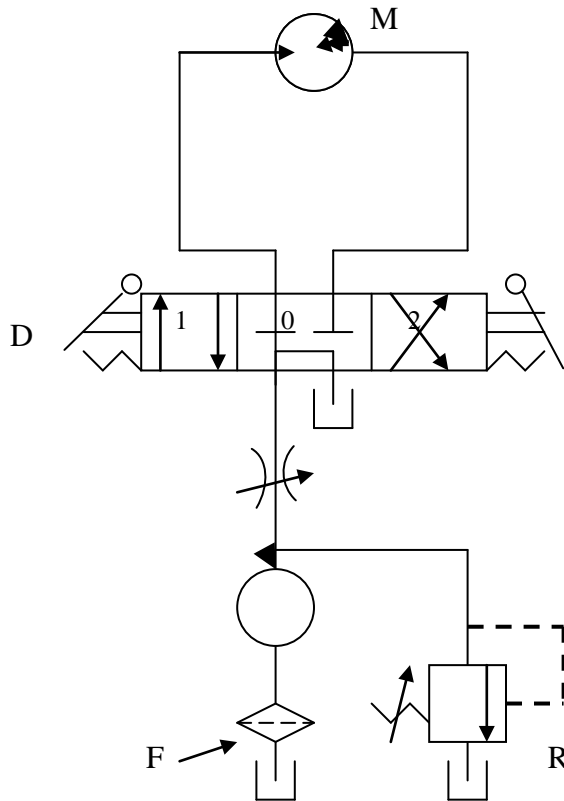

Fig 5.19. **Speed control of Hydraulic motor using Flow control valve.**
5.14 Speed control of Hydraulic Motor: Figure 5.19 shows a circuit where speed control of a hydraulic motor (Bi -directional motor) is accomplished using a flow control valve to control the fluid flow to the motor.